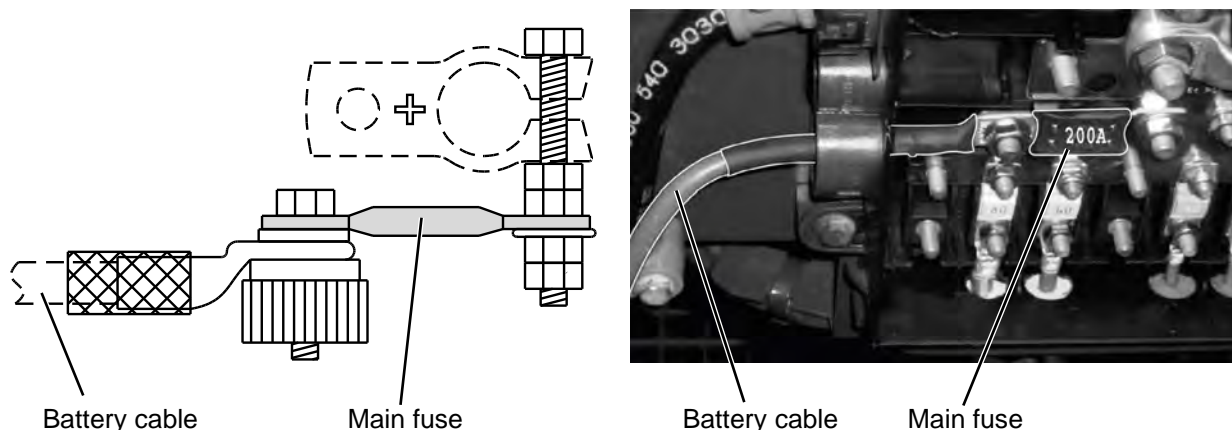

Figure 23: Battery connection
- Attach the main fuse with the cable lug and connect the battery cable to the battery plus terminal or alternatively to the battery distributor (see Figure 23).